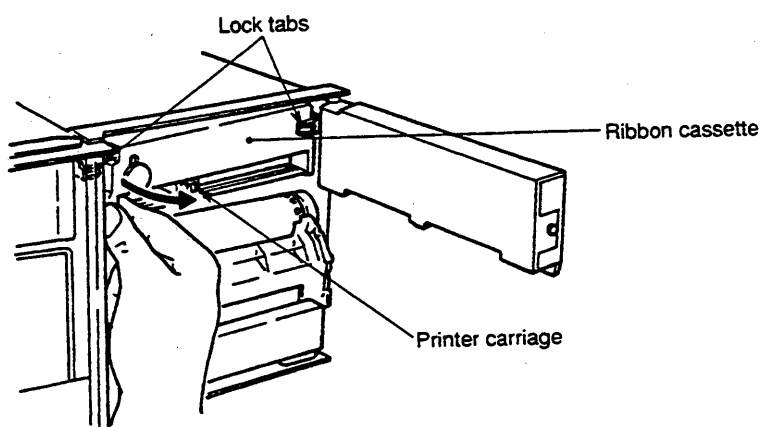

Figure 3-9. Ribbon Cassette Replacement
4. Press the left lock tab to the left and use the lower left part of the cassette as a handle to pull it out of the holder. See Figure 3-9.